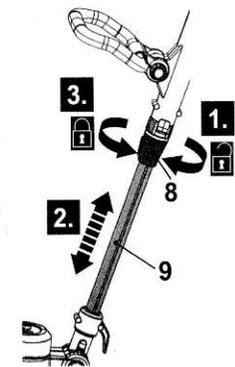

Fig. 5
1. Loosen the locking sleeve (8) in clockwise (Fig. 5, step 1).
2. Pull the lower pole (9) out or push it together to adjust the desired length (Fig. 5, step 2).
3. Tighten the locking sleeve (8) in anticlockwise (Fig. 5, step 3).